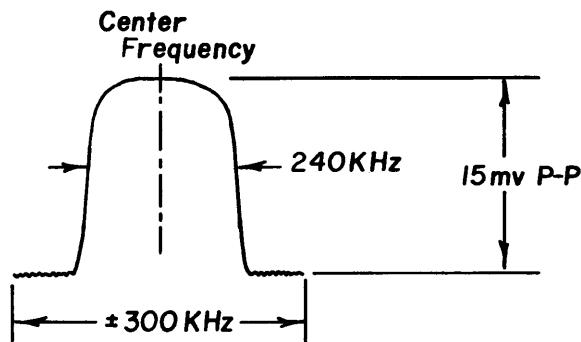

Figure 4.
3. Realign the front end 10.7 MHz output, along with T201, T202 and T203 (all top and bottom slugs) for maximum gain while maintaining bandwidth and symmetry, resulting in I.F. selectivity characteristics simular to Figure 4.